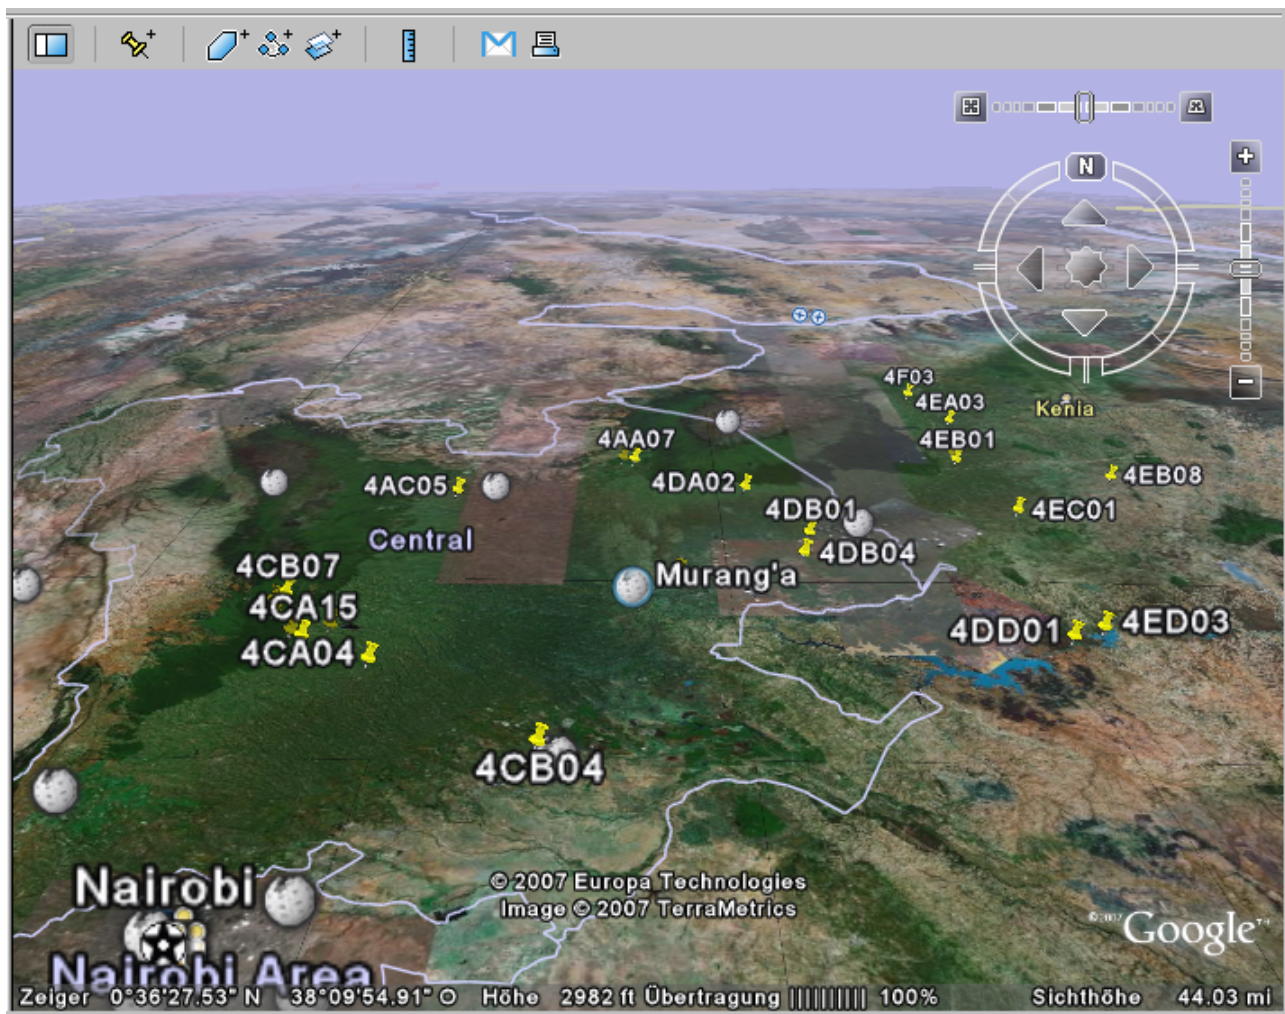

Figure 5.19: topodesk measuring sites in *Google Earth*
5. Load the export file in the desired program ($\hookrightarrow$ fig. 5.19)